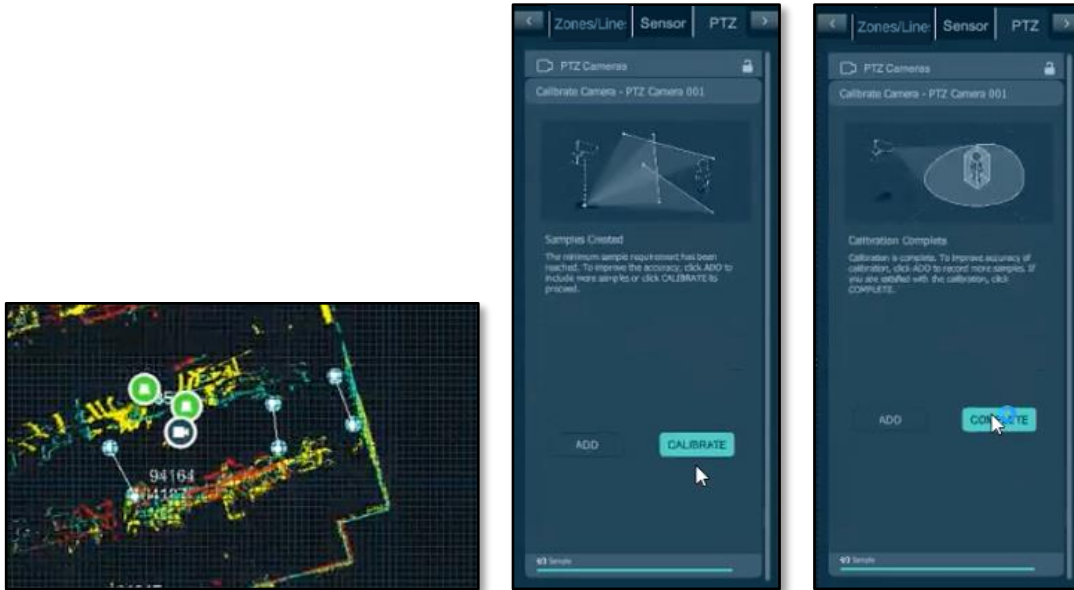

Figure 75. PTZ Camera Calibration: Calibrate All Points
7. In Configuration panel, click **CALIBRATE** button. Click **COMPLETE**. See Figure 75. PTZ Camera Calibration: Calibrate All Points.